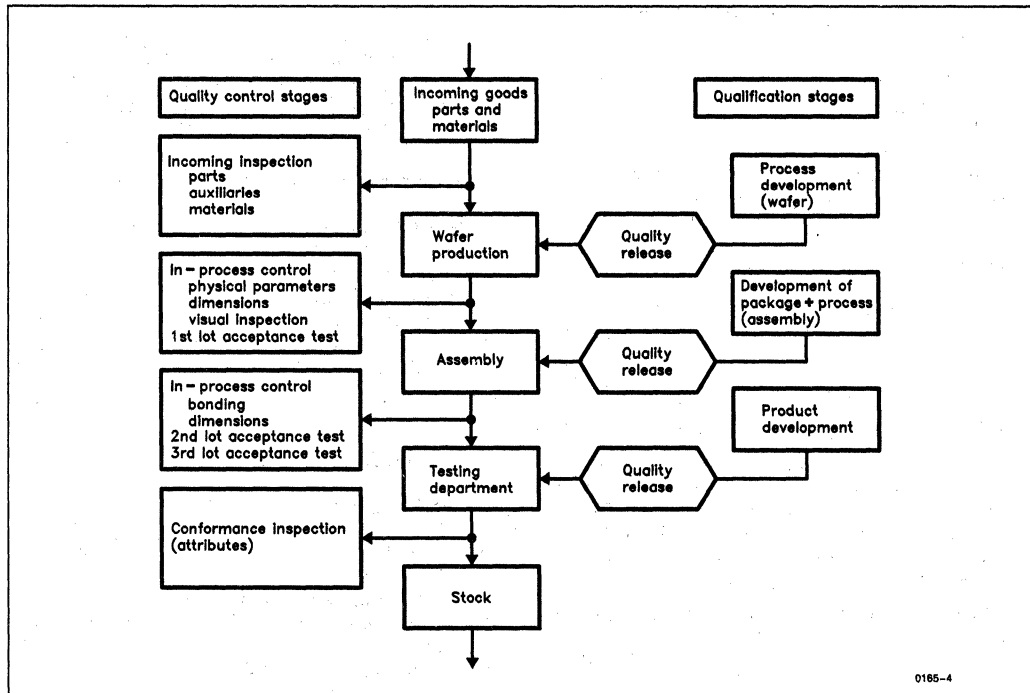

Figure 2. Quality Assurance System
Figure 2 shows the most important stages of the "SQS-IC". A quality assurance (QA) department which is independent of production and development, is responsible for the selected control measures, acceptance procedures, and information feedback loops. This department has state-of-the-art test and measuring equipment at its disposal, works according to approved methods of statistical quality control, and is provided with facilities for accelerated life and environmental tests used for both qualification and routine monitoring test.